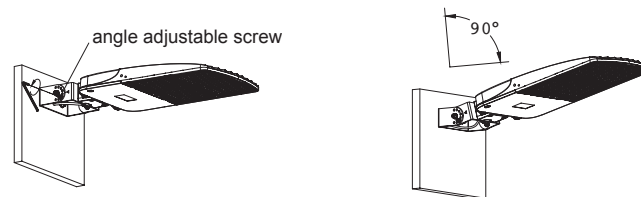

Figure 5
5. Loosen the angle adjustment screws on both sides of the TR bracket. Rotate fixture to the angle required. Tighten 2 screws to secure angle. Note: The adjustment angle is 0-90°. (Fig. 5)